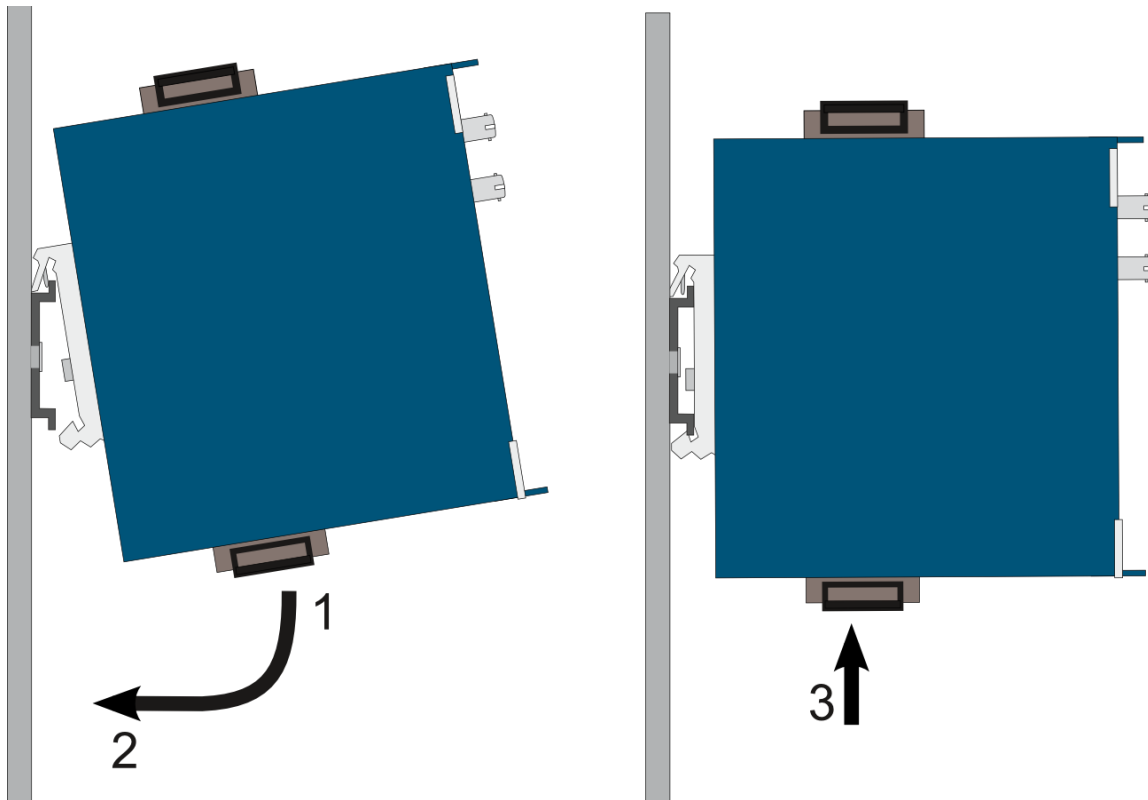

Figure 4: Installation on DIN mounting rail
The **EL-100-2MA** switches are equipped with a fastener for 35 mm top-hat rails as per DIN EN 60175. To install the top-hat rails, snap the devices onto the top side of the rail (Figure 4 left) and then press downward against the spring force in the top-hat rail clip (1) and then into the assembly plate (2). The top-hat rail fastener locks via spring force (3) as depicted in the Figure 4 right.